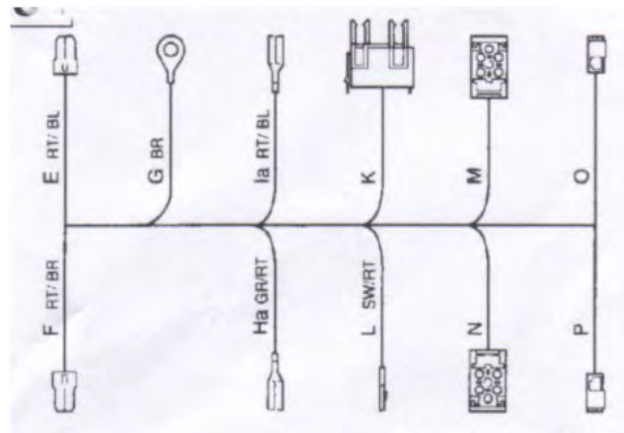

Figure 25 – Supplemental Harness
7.1 The supplemental harness is shown in Figure 25. Note Cables E/F, G, Ha, la, L, K, N, M, P and O. Begin under the driver's side dash